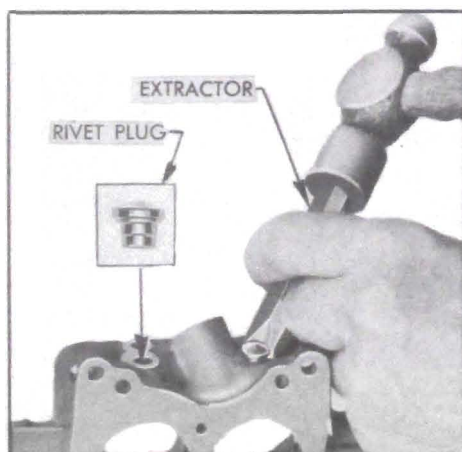

Figure 3-32—Removing Rivet Plug
18. Remove idle adjustment screws and springs from body flange. Remove both idle port rivet plugs, using Rivet Extractor T109-43. See figure 3-32.
8. *Main Body.* If passages in main body appear to be clogged with carbon and gum to such an extent that penetration of cleaning solution is doubtful, remove both nozzle passage rivet plugs using Rivet Extractor T109-43 (shown in fig. 3-32). *Do not attempt to remove nozzles or anti-percolator plugs from main body under any circumstance.*